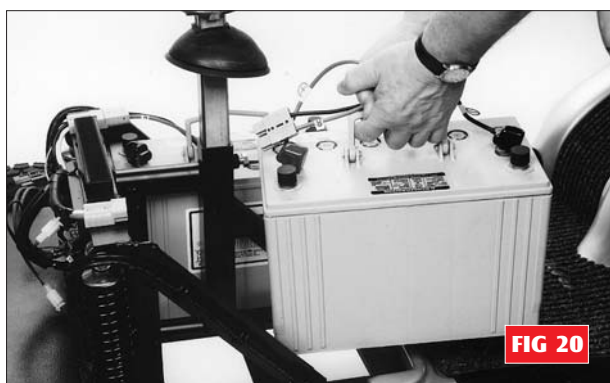

FIG 20
4. Position each battery onto the Scooter frame (see fig20).